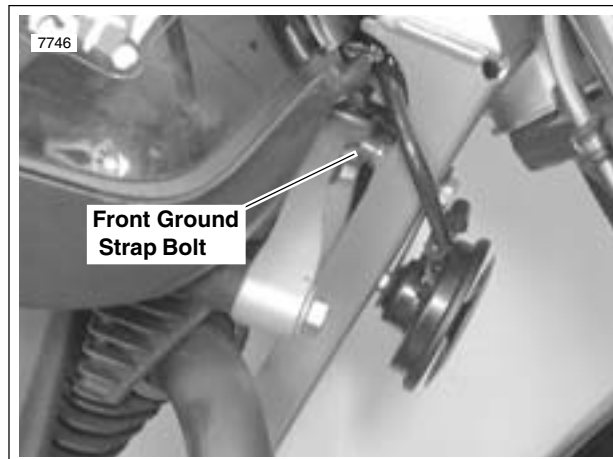

Figure 2-112. Front Tiebar Bolt
7. See Figure 2-112. Loosen front ground strap bolt for clearance.